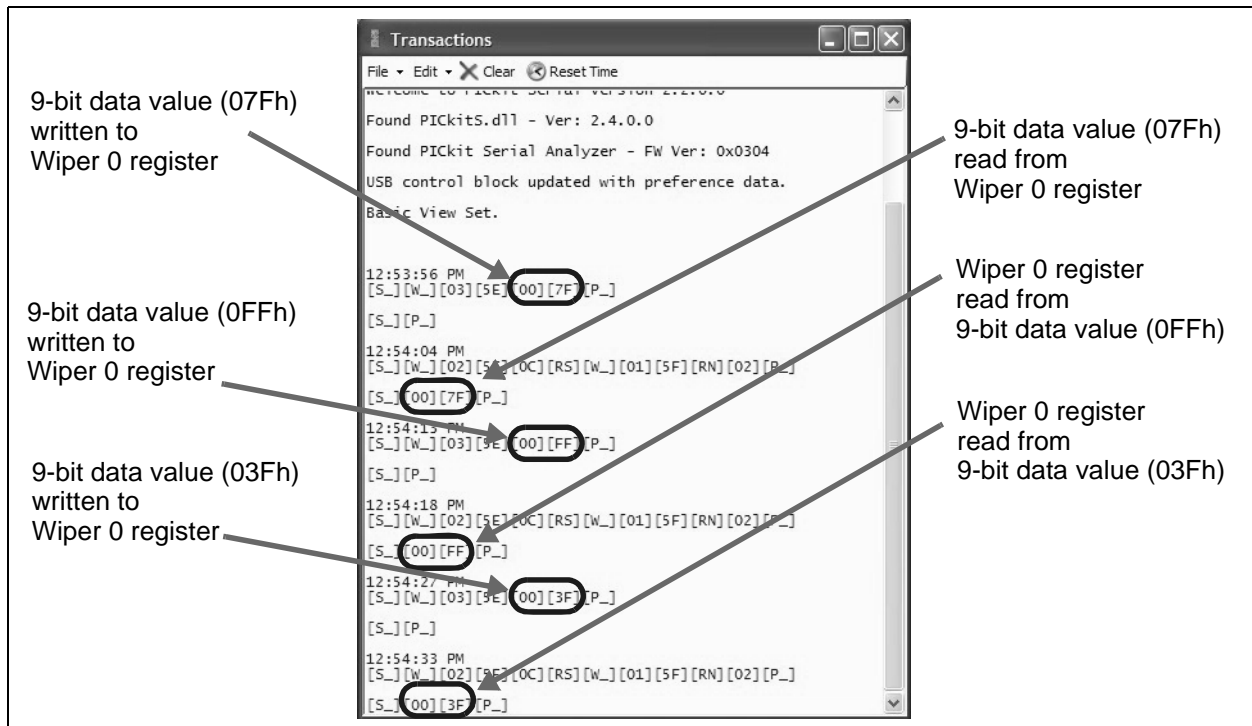

FIGURE 2-17: MCP4661 Transaction Window - Wiper 0 Writes and Reads.
12. Click on the **Execute Script** button. This executes the script shown in the Script Detail column. The Transaction window (see Figure 2-17) will be updated to indicate the execution of the script.
16. Click on the **Execute Script** button. This executes the script shown in the Script Detail column. The Transaction window (see Figure 2-17) will be updated to indicate the execution of the script.
20. Click on the **Execute Script** button. This executes the script shown in the Script Detail column. The Transaction window (see Figure 2-17) will be updated to indicate the execution of the script.